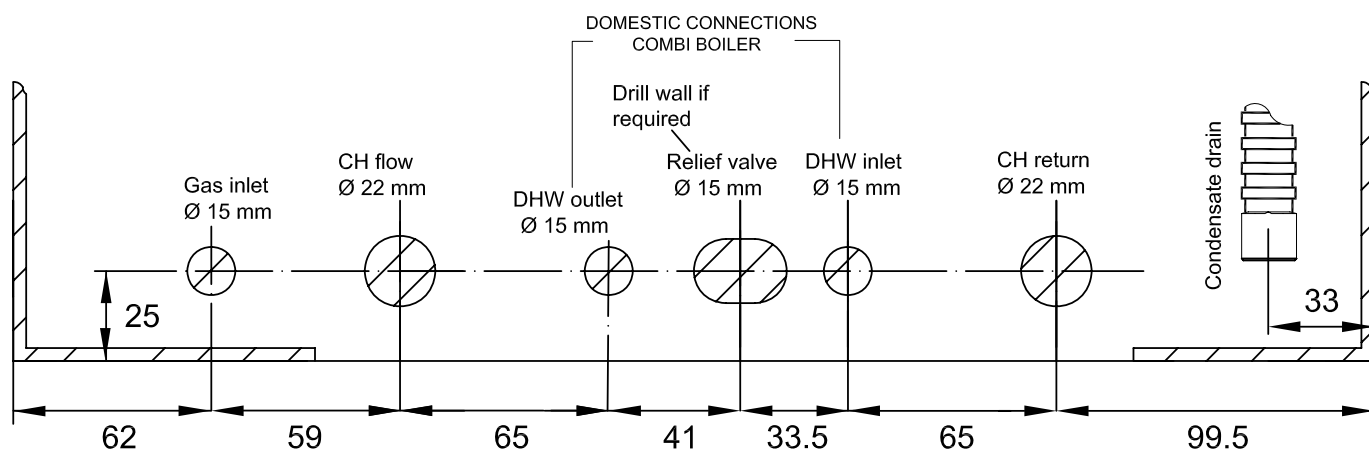

Fig. 32
- Pipe dimensions and positions are marked on template supplied and fig. 32.